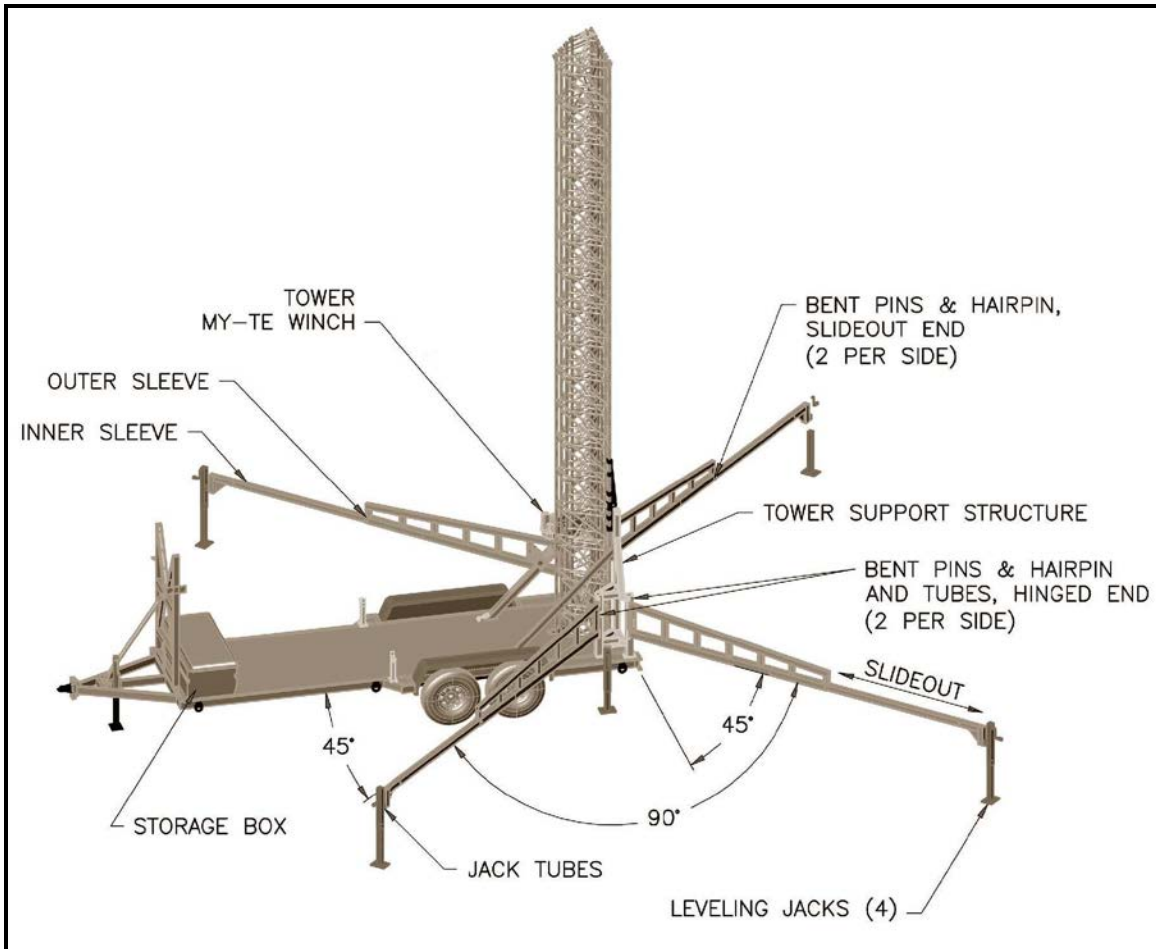

Fig. 6 Deployed Outrigger Details
4. **Slowly** swing all 4 outriggers into deployment position. The rear outrigger will swing to about 45° toward the rear of the trailer and the front outrigger will swing to about 45° toward the front of the trailer. This will provide about 90° between the 2 outriggers on each side (*see Fig. 6*).
5. Once the outriggers are in deployment position, align the bent pin tubes on the hinged end of the outriggers and insert the bent pins on all 4 outriggers. Once pins are inserted, place hairpin retainers through hole on end of each bent pin (*see Fig. 6*).
6. Remove the bent pin & hairpin from the slideout end of each outrigger, 2 per side (*see Fig. 6*).
7. Slide out each of the 4 outriggers inner sleeves until the holes on the inner sleeves are aligned with the holes on the outer sleeves and reinsert the bent pin and hairpin (*see Fig. 6*).
8. Remove 4 leveling jacks from storage box and place on jack tubes on each end of all 4 outriggers, then pin into place (*see Fig. 6*).